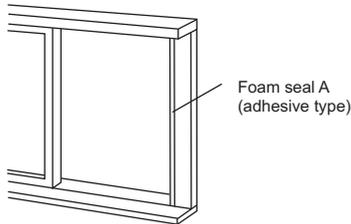

Fig. 14
1. Cut the foam seal(adhesive type) to the proper length and attach it to the window frame. See Fig.14.